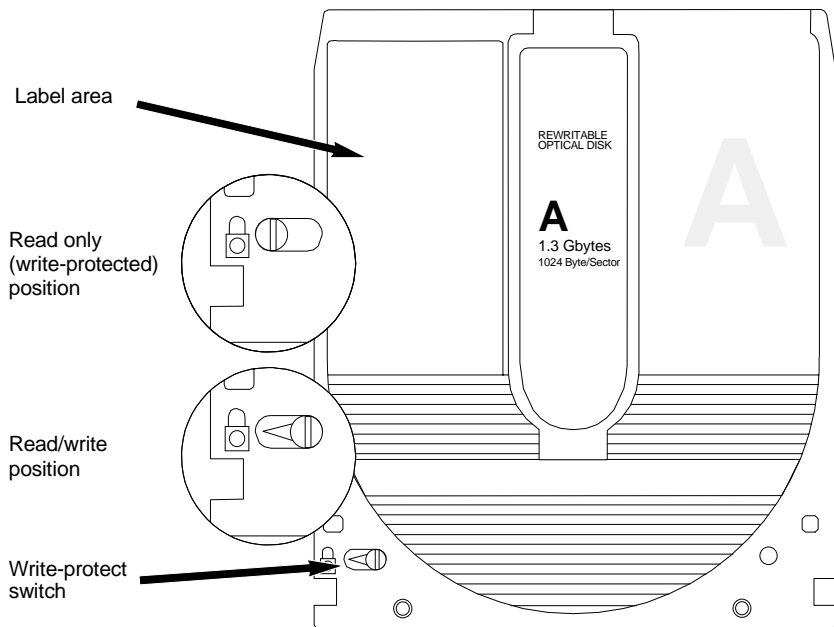

Figure 3-3: Cartridge write-protect switch
1. To write-protect a side of the cartridge, slide the appropriate tab toward the left edge as shown in Figure 3-3.